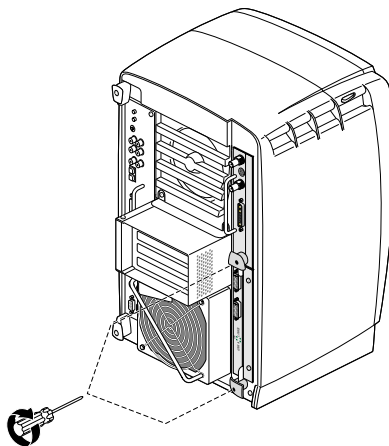

Figure 2-17 Tightening the XIO Tri-Module Captive Screws
7. Tighten the captive screws in the sliding handles, as shown in Figure 2-17.